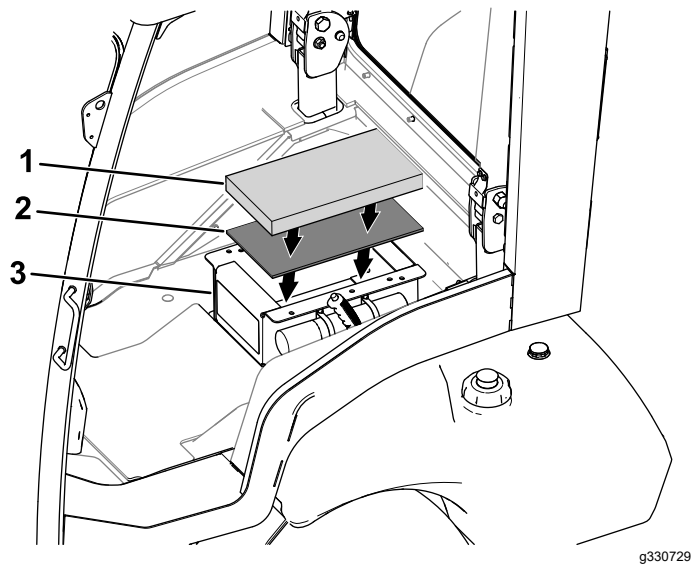

Figure 19
1. Install the seat-base pad (**thin**) inside of the seat base (Figure 19).
2. Install the seat-base pad (**thick**) inside of the seat base (Figure 19).